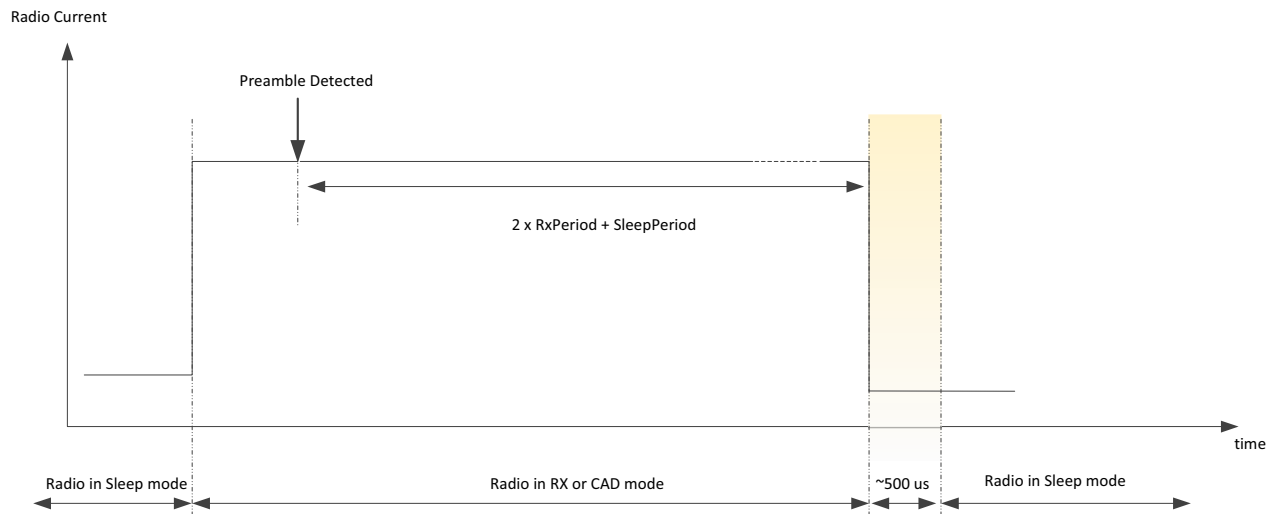

Figure 7-3: RX Duty Cycle Upon Preamble Detection
2. Upon preamble detection, the timeout is stopped and restarted with the value $2 * RxPeriod + SleepPeriod$, as shown in Figure 7-3: RX Duty Cycle Upon Preamble Detection.